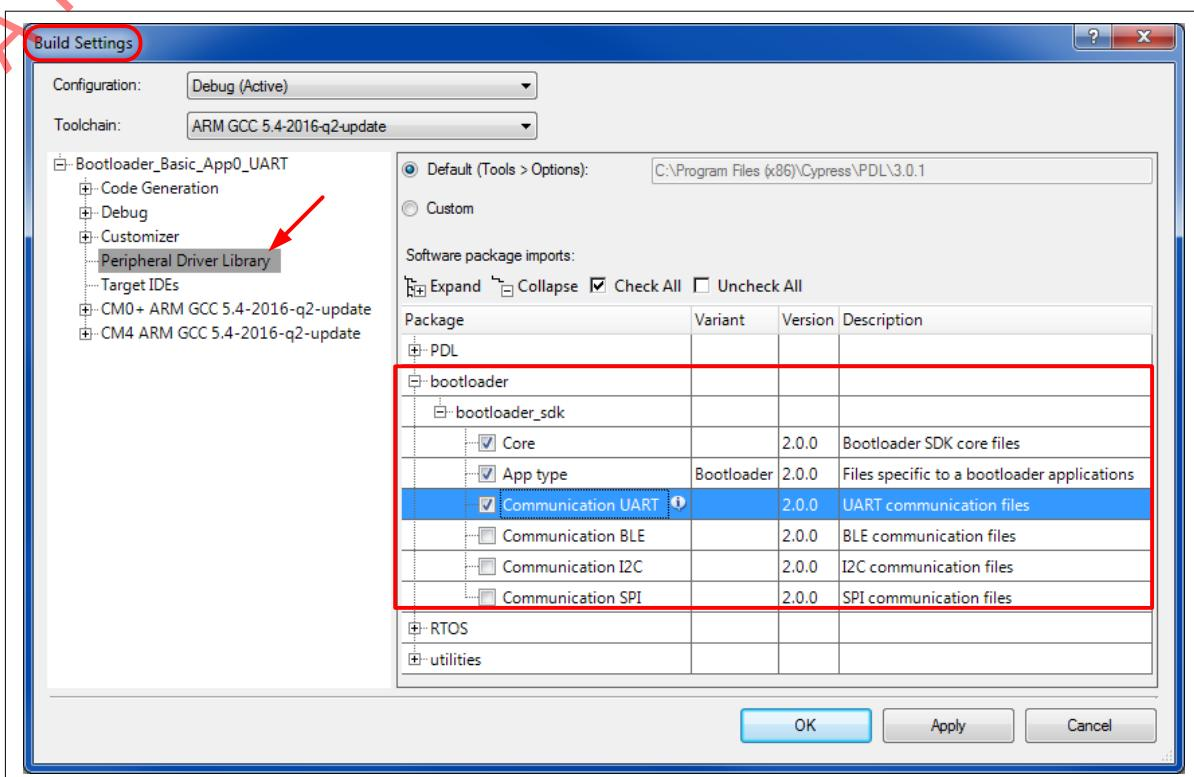

Figure 573 Incorporate bootloader SDK into a PSoC™ Creator project
2. Incorporate the Bootloader SDK into the project, as Figure 573 shows. Right-click the project in the Workspace Explorer window and select **Build Settings...**. In the **Build Settings** dialog, select **Peripheral Driver Library**.